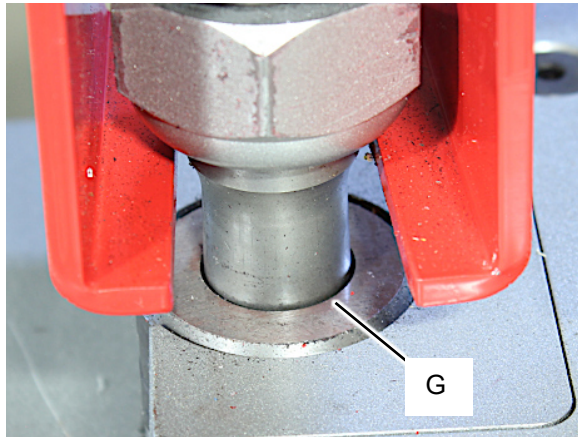

Figure 11
12. Verify that the punch to die gap is even and equal all the way around the punch. (Fig. 11, G)